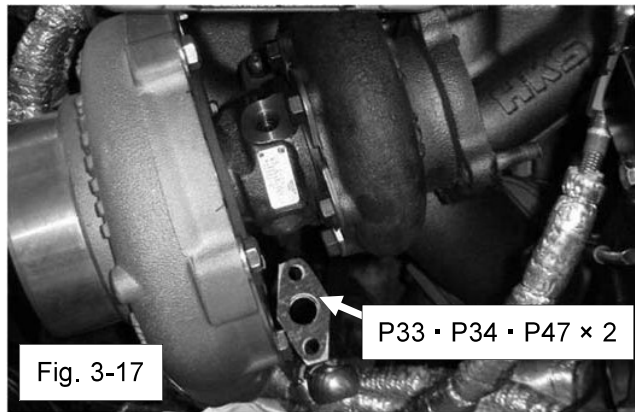

Fig. 3-17
(17) Attach the oil outlet pipe to the turbocharger body. (Fig. 3-17)